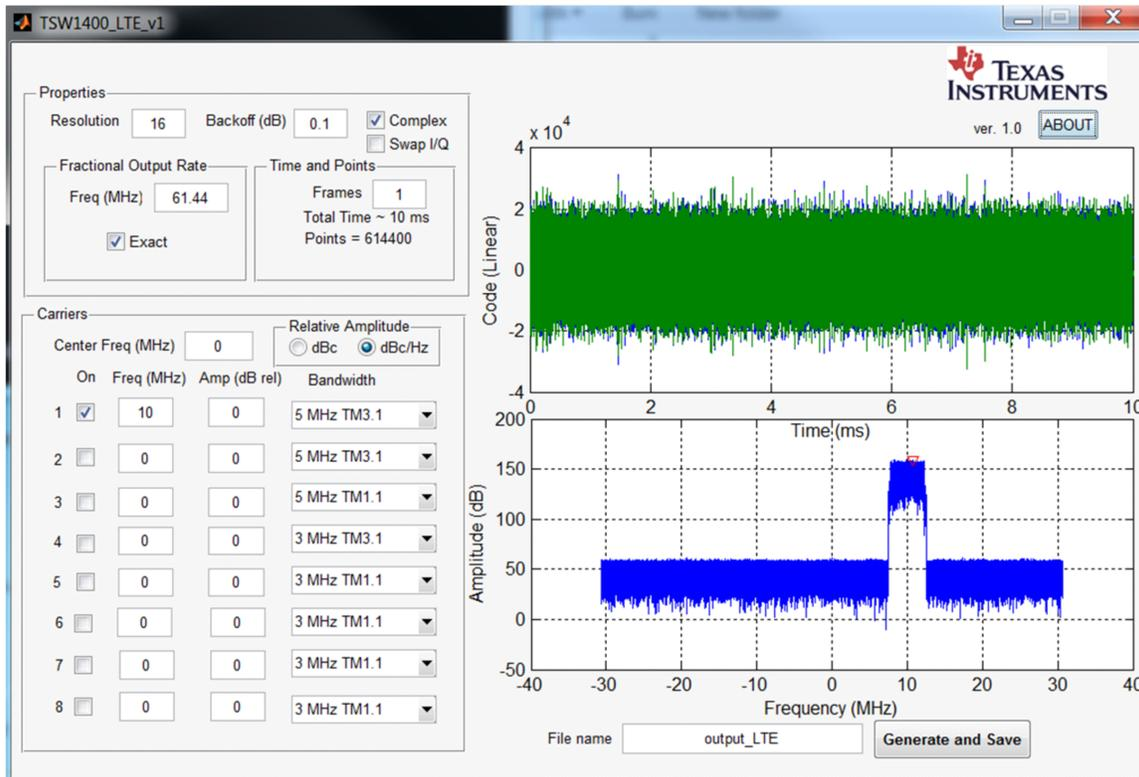

Figure 14. TSW1400 LTE User Interface
1. Set up the interface for TSW1400_LTE as shown in Figure 14.